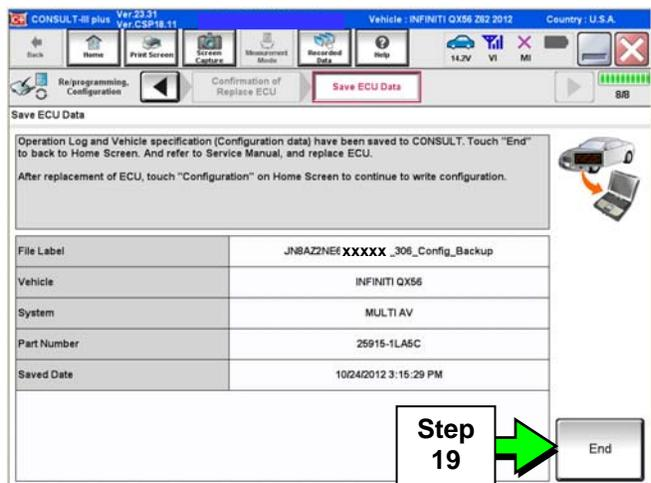

Figure 10
- The software P/N is shown in Figure 10. Ignore it.